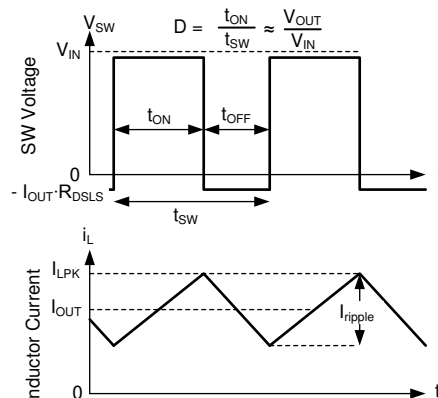

图 23. SW Voltage and Inductor Current Waveforms in Continuous Conduction Mode (CCM)
The following operating description of the LM61440 refers to the Functional Block Diagram and to the waveforms in Figure 23. In CCM, the LM61440 supplies a regulated output voltage by turning on the internal high-side (HS) and low-side (LS) NMOS switches with varying duty cycle (D). During the HS switch on-time, the SW pin voltage, V_{SW} , swings up to approximately V_{IN} , and the inductor current, i_L , increases with a linear slope. The HS switch is turned off by the control logic. During the HS switch off-time, t_{OFF} , the LS switch is turned on. Inductor current discharges through the LS switch, which forces the V_{SW} to swing below ground by the voltage drop across the LS switch. The converter loop adjusts the duty cycle to maintain a constant output voltage. D is defined by the on-time of the HS switch over the switching period: